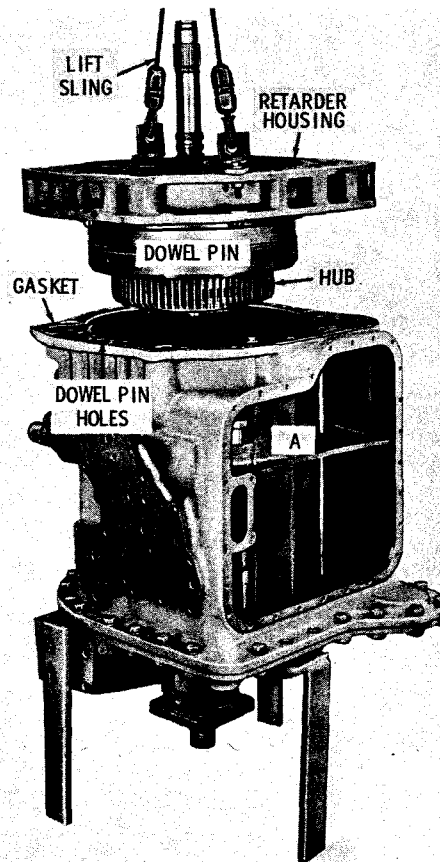

Fig. 7-54. Installing retarder housing onto transmission housing
(23) Install the gasket onto the transmission housing (fig. 7-54). Attach a 2-strand lifting sling to the rotor side of the retarder housing